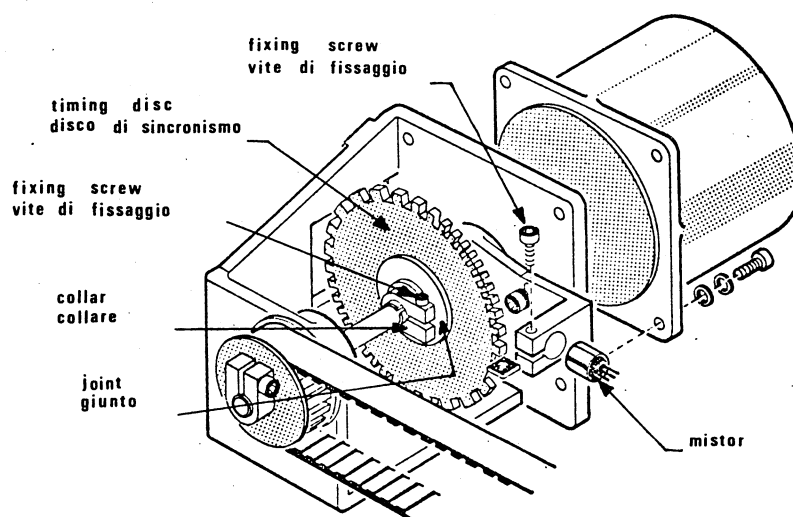

Fig. 8-34
- . Loosen the fixing screw on the front and back collars of the timing disc (fig. 8.34)